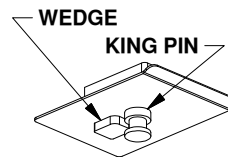
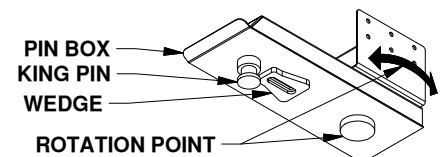

Figure F1: Capture plate.
Figure F2: Pin box with rotation point.
**WARNING:** Towing a trailer without a functioning pivot point between the hitch and trailer will cause significant damage to the hitch which may lead to serious injury or death. Some pin boxes such as a PullRite® SuperGlide capture plate remove the pivot point between a trailer and coupler and should not be used, see Figure F1. Pin boxes with a wedge that relocates the pivot point such as a Reese® Sidewinder or Reese® Revolution may be used, see Figure F2.